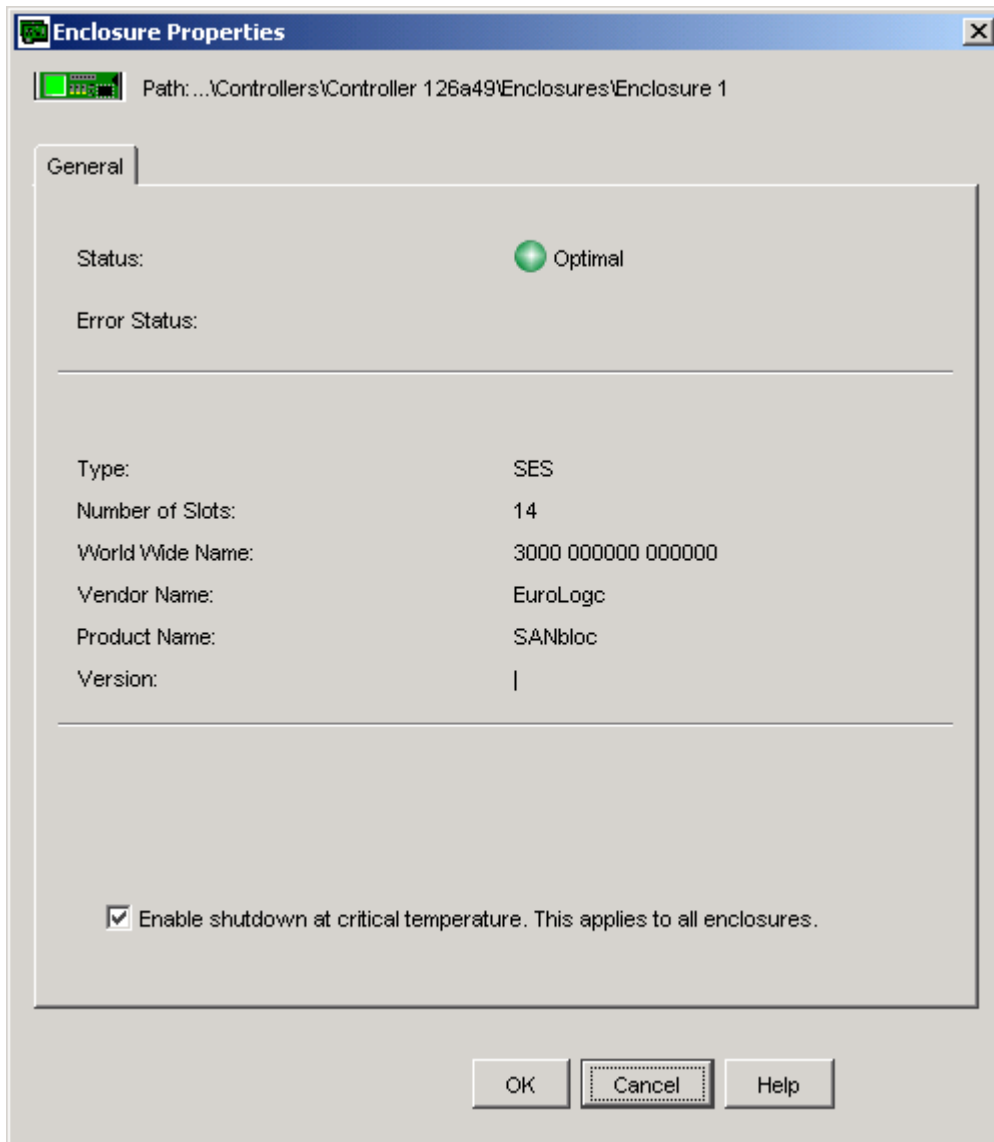

Figure 94 Viewing Enclosure Properties
- The Enclosure Properties dialog box opens and displays Figure 94 Viewing Enclosure Properties on page 125.